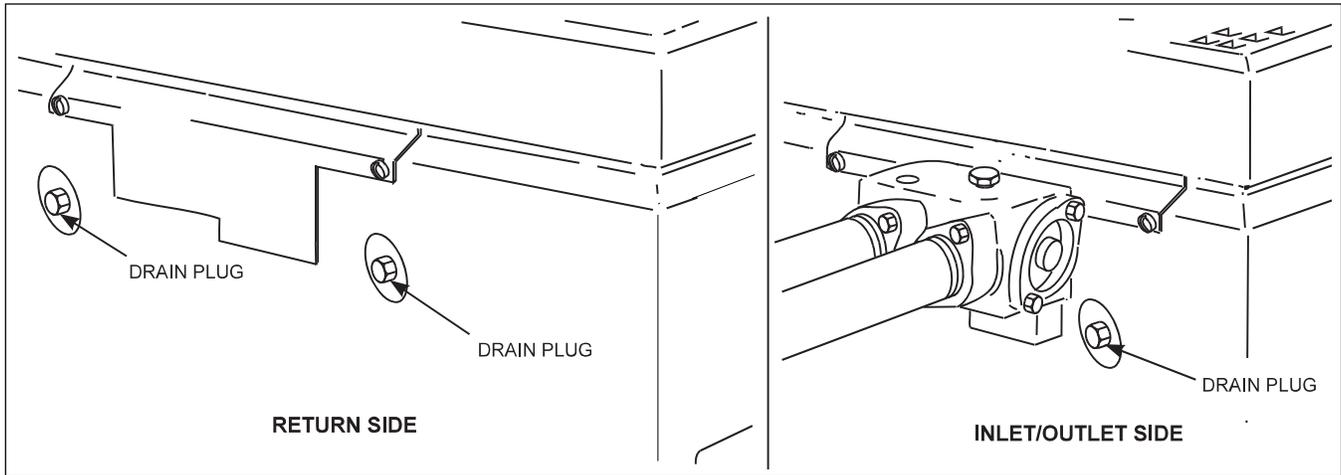

Figure 20. Heater drain locations.
2. Completely drain the heater before the first frost. To drain the heater, remove the drain plugs (see Figure 20).